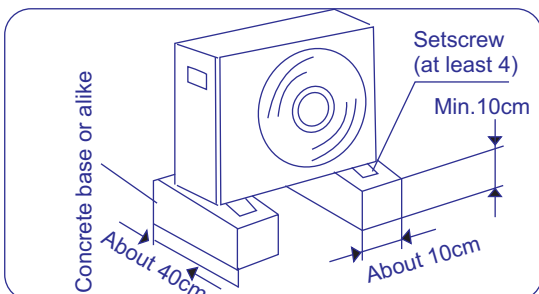

Fig.8.2
- Make a strong base(10X40cm² board made of concrete or alike). The appliance should be placed not less than 10 cm high to avoid being wet or corroded. Otherwise, it may cause damage to the appliance or reduce its life time. (Figure 8.2)